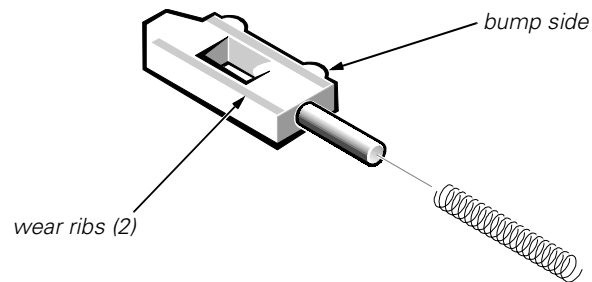

Figure 29. Left Slider
- Ensure that the plunger is inserted in its respective hole, that the side of the slider with the two bumps is facing the rear of the case, and that the surface with the wear ribs is facing the bottom of the case (see Figure 29).